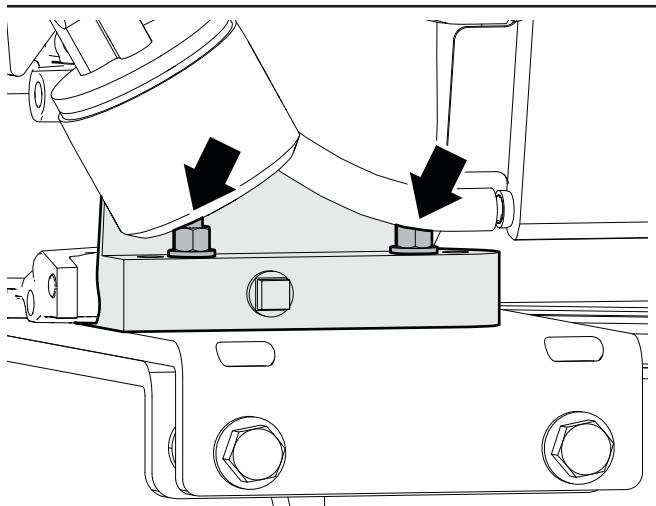

Figure 41—Engine mount bolts (two of four)
3. Loosen (do not remove) the four bolts that attach the engine mount to the machine frame. See *Figure 41* on page 59.
1. Loosen (do not remove) the four engine mount bolts. See *Figure 41 on page 59*.